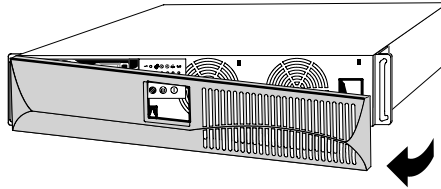

Figure 1. Removing the Front Cover
2. Remove the UPS front cover (see Figure 1).